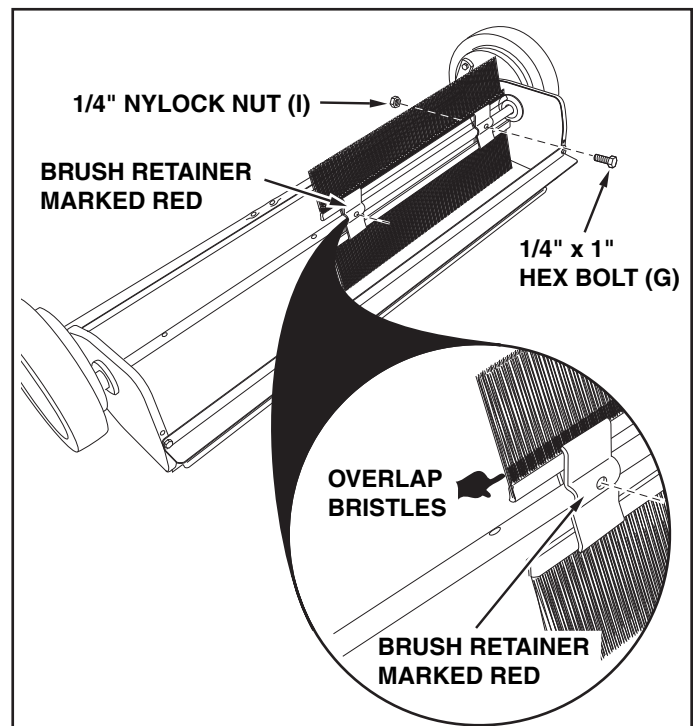

FIGURE 2
**IMPORTANT:** The overlap bristles at the bottom of each brush help support the back side of the brush for better sweeper performance. Be sure the sweeper is turned as shown in figures 2 and 3 to correctly assemble the brushes.
## STEP 2: (SEE FIGURE 2)